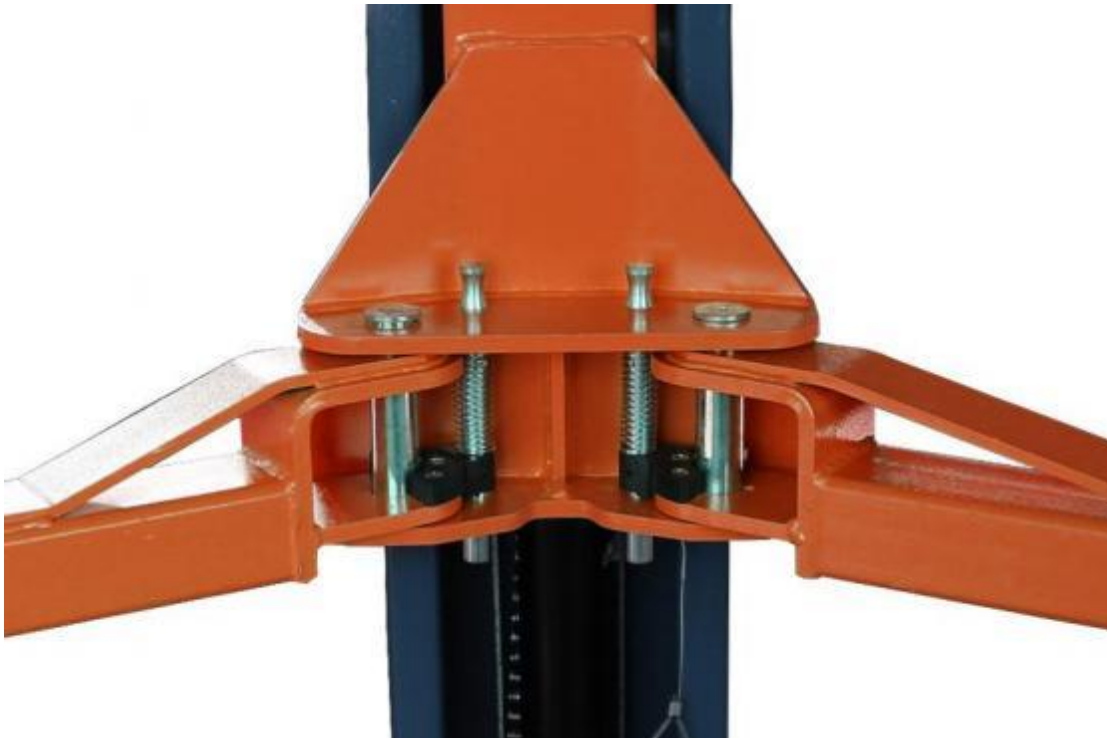
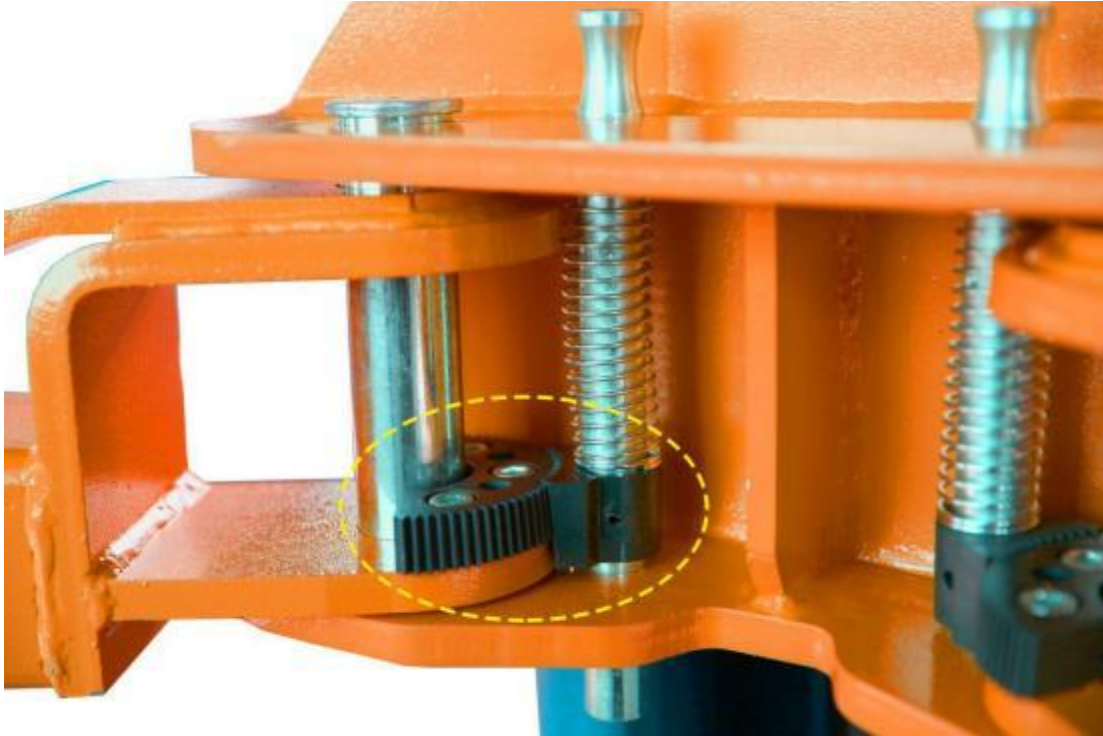

Fig 9 Arm Installation Diagram
Fig 10 Pulling Rod Installation Diagram
Install arms and pulling rod (Fig 9 and Fig 10).
**Note: Loose the screw to adjust when necessary(Fig 10).**